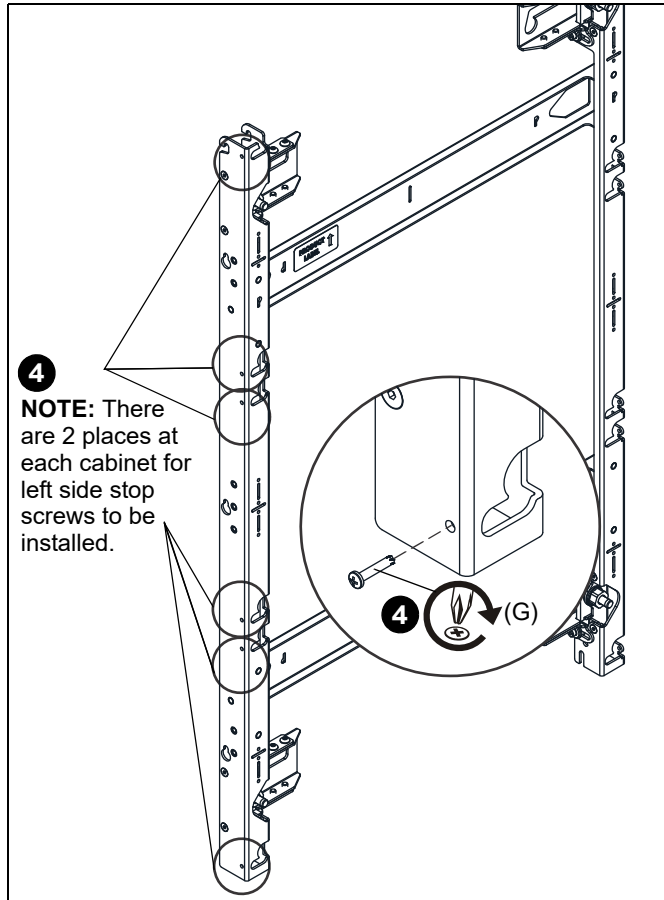

Figure 16
4. Insert the proper number of 10-24 x 1" self-tapping screws (G) into the left side of the mount. (See Figure 16)